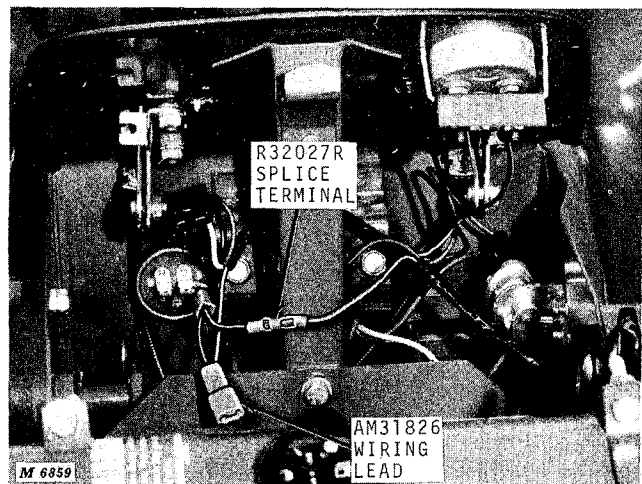

Fig. 4-Attaching Wires to Ignition Switch, Using AM31826 Wiring Lead
Install an AM31826 Wiring Lead, Figure 4, on end of orange wire. Use a standard connector such as an R32027R Splice Terminal found in the AR30963R Spark Plug Cable and Lead Kit.
*NOTE: 3-Blade Connector is removed from switch in Figures 4 and 5 for illustration purposes only.*